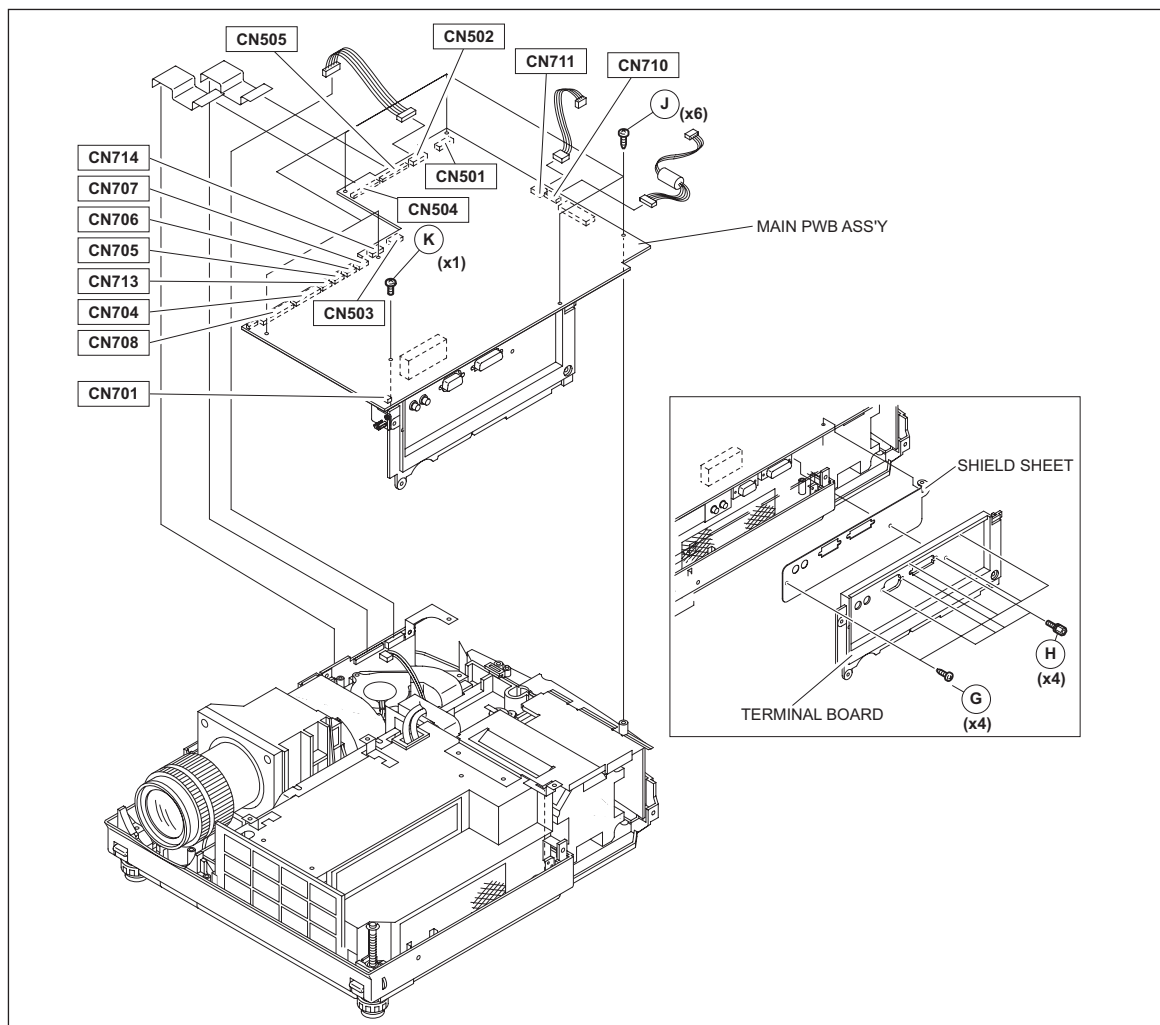

Fig.3
- (1) Remove the 6 screws marked **J** fixing the MAIN PWB ASS'Y. (Fig.3)
- (2) Remove the harness from the connectors CN710 and CN711.
- (3) Remove the cord wire from the connector CN504 and CN505.
- (4) Remove the harness from the connectors CN501, CN502, CN503, CN714, CN707, CN706, CN705, CN713, CN704 and CN708.
- (1) Remove the 4 screws marked **G** fixing the TERMINAL BOARD. (Fig.3)
- (2) Remove the TERMINAL BOARD.
- (3) Using a nut driver and the like, remove the 4 screws marked **H** fixing the D-SUB connector and DVI connector. (Fig.3)
- (4) Pull out the SHIELD SHEET toward you to remove it.